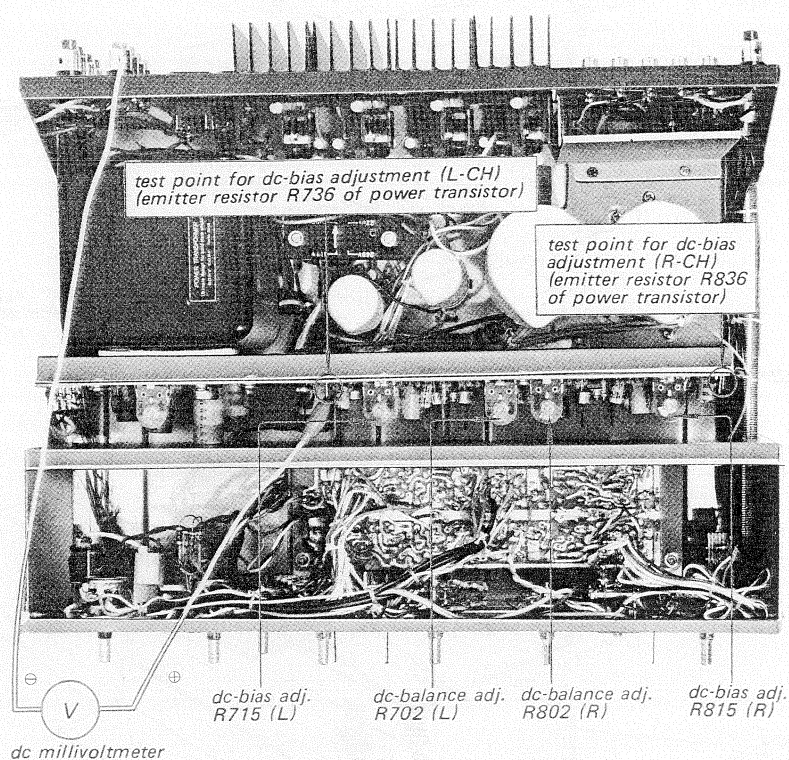

Fig. 3-2 Test points and adjustments
To avoid accidental power transistor damage, increase the ac line voltage gradually, using a variable transformer, while alternately measuring the voltage across test points and the hot side of the speaker binding post (emitter resistors R736 and R836 of the power transistors) as shown in Fig. 3-2. Check to see that the reading does not exceed 25 mV. If it does, turn off the power as soon as possible, then check and repair the trouble in the power amplifier board.
2. Connect the dc millivoltmeter across the test point and the hot side of the speaker binding post (L-CH) (emitter resistor R736 of power transistor Q712) as shown in Fig. 3-2.
1. Apply a drop of cement solvent to the semifixed resistors on the power amplifier board, and then set the semifixed resistors (see Fig. 3-2) on the power amplifier board as follows: